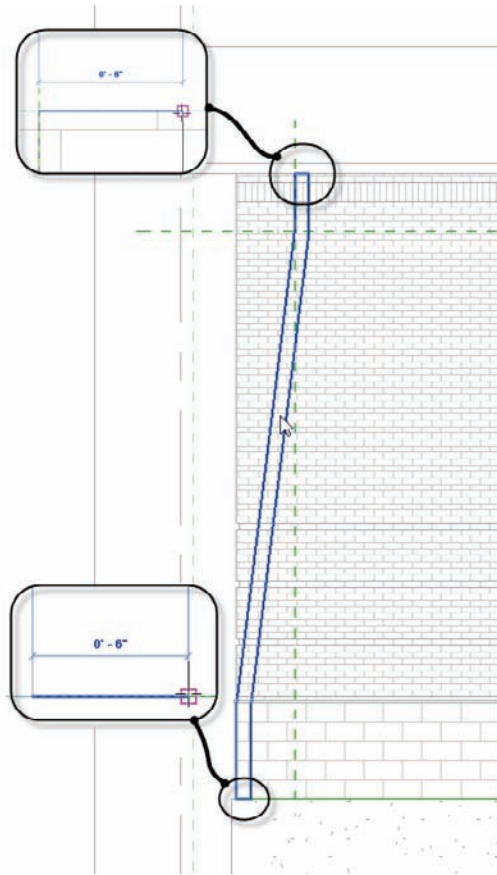

FIGURE 16.45 Closing the loop
15. Draw a line at the top and the bottom, closing the loop. See Figure 16.45.